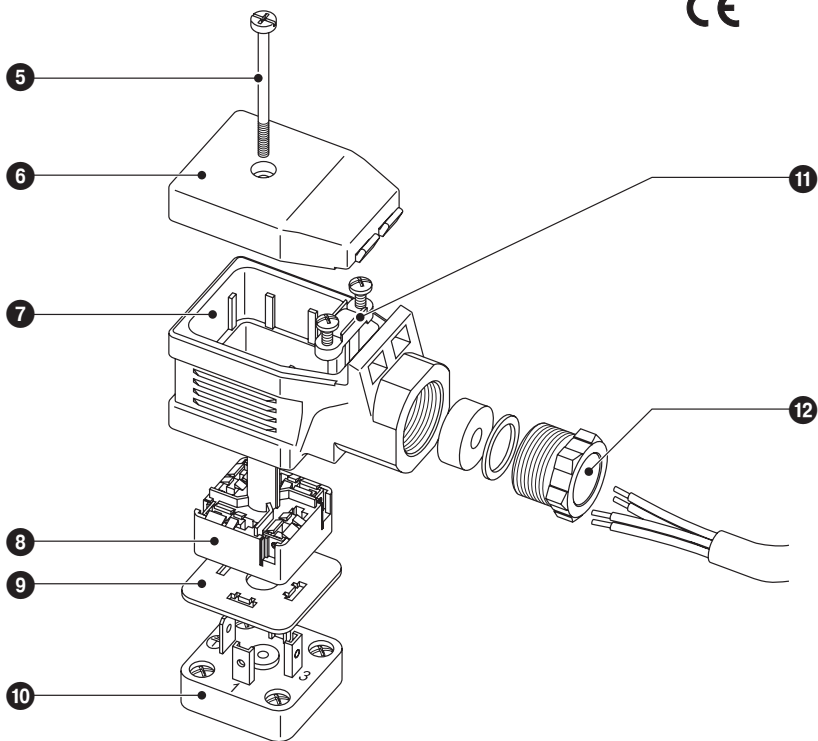

Fig. 6
1. Loosen screw ⑤, Fig. 6.
2. Take the terminal box off the level electrode, leaving the sealing element ⑨ on the contact plate ⑩.
3. Remove cover ⑥.
4. Press connecting plate ⑧ out of the upper part of the terminal box ⑦.